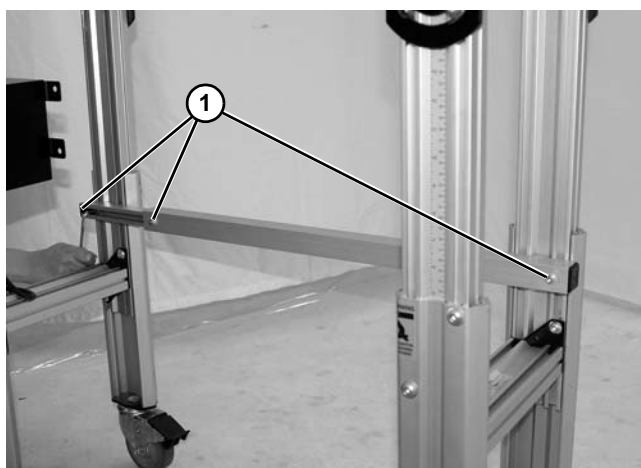

Figure 16
Failure to secure three screws (Figure 16, item 1), may cause conveyor sections to drop down, causing severe injury.
4. Tighten three screws (Figure 16, item 1), to 80 in-lb (9 Nm).